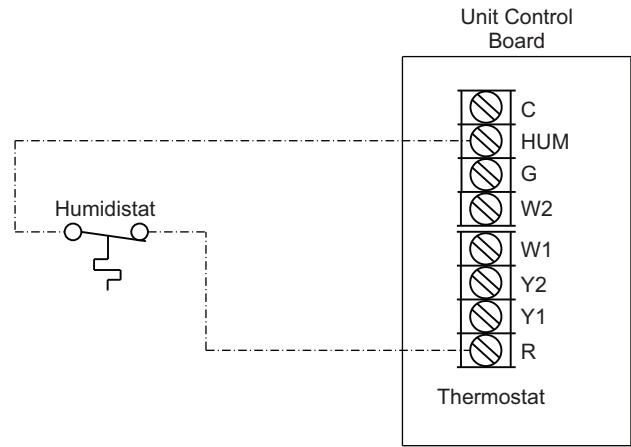
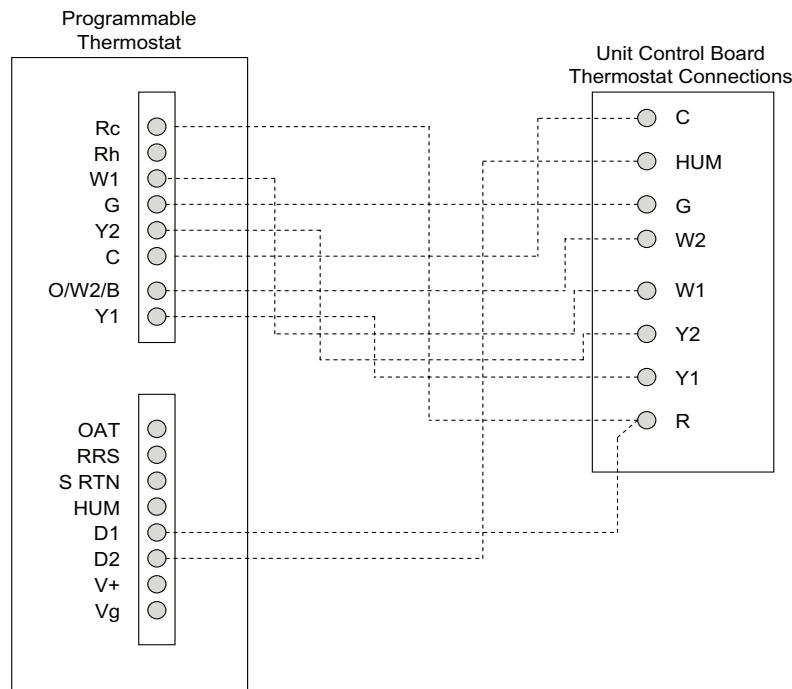

Fig. 37 — Humidistat Connections to UCB
Fig. 38 — Typical Rooftop Unit with Humidi-MiZer Adaptive Dehumidification System and Edge® Pro Thermidistat Device
The Humidi-MiZer dehumidification system requires a field-supplied and field-installed space relative humidity control device. This device may be a separate humidistat control (contact closes on rise in space RH above control setpoint) or a combination thermostat-humidistat control device such as Carrier's Edge® Pro Thermidistat™ device with isolated contact set for dehumidification control. See Fig. 37 and Fig. 38. The humidistat is normally used in applications where a temperature control is already provided (units with SystemVu™ control).
3. Connect one of the leads from the 2-conductor cable to the HUM terminal on the UCB (Unit Control Board). Connect the other lead to the R terminal on the UCB. See Fig. 37.
3. The Thermidistat has dry contacts at terminals D1 and D2 for dehumidification operation (see Fig. 38). Connect D1 to the R terminal on the UCB. Connect D2 to the HUM terminal on the UCB. Refer to the installation instructions included with the Carrier Edge® Pro Thermidistat device for more information.